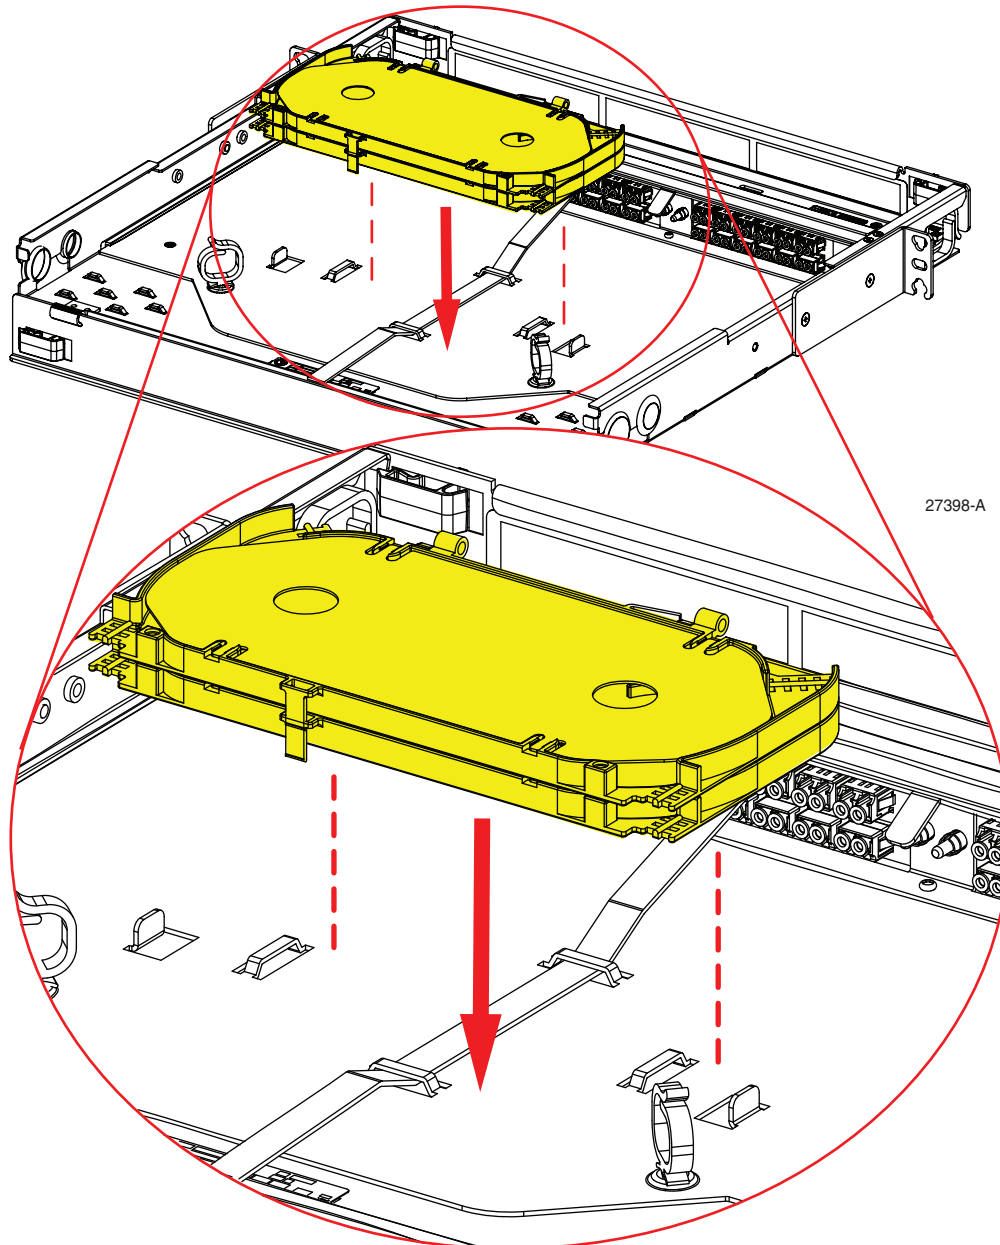

Figure 19. Installing Splice Trays
1. Install the splice tray as shown in Figure 19.